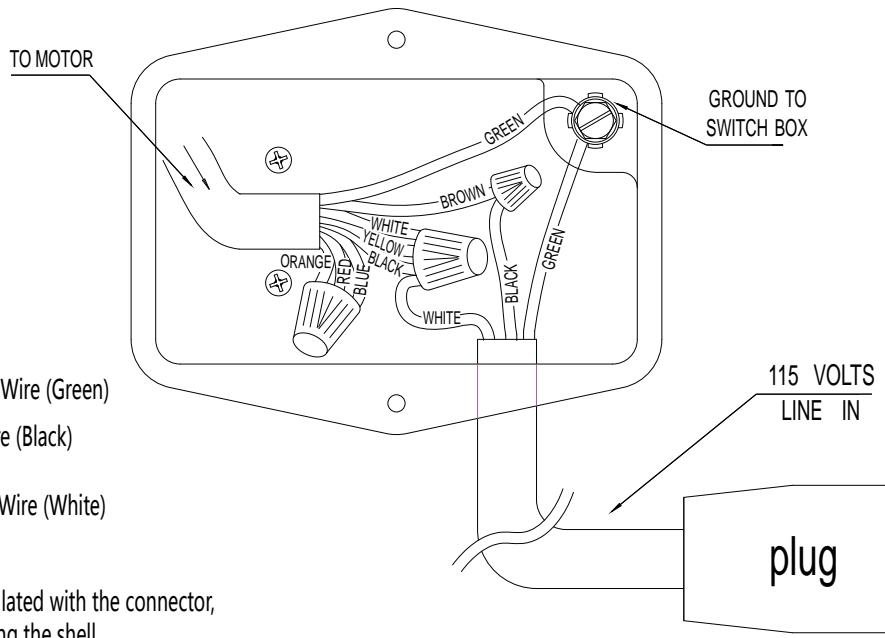

Figure 3
4. Follow the wiring diagram (Figure 2: 115V/60Hz, Figure 3: 230V/60Hz and table1: Plug and socket) for proper connections.